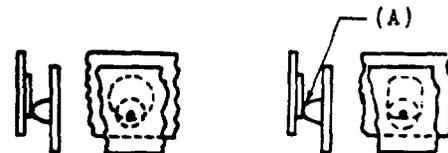

Fig. 1
1.10 Fig. 1 - This figure, formerly referred to on circuit requirement tables is covered by requirements given in part 2.
2.06 Contact Alignment - Fig. 1 (A) - Contacts shall line up so that the point of contact falls wholly within the boundary of the opposing contact. Gauge by eye.